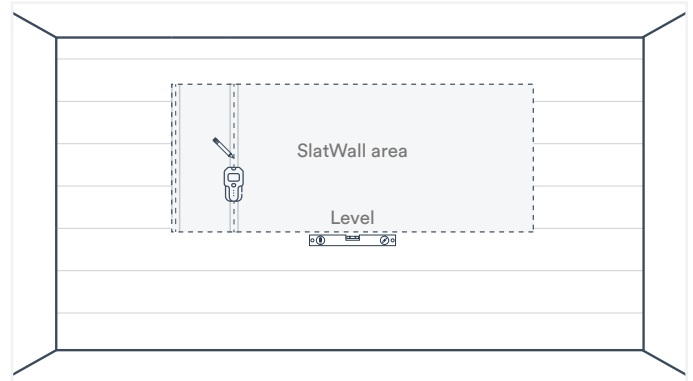

Fig. 19
3. Install your Trusscore Wall&CeilingBoard panels as previously detailed, leaving an opening for your SlatWall installation as determined by the spacing guidance provided in Step 1 (Fig. 19).